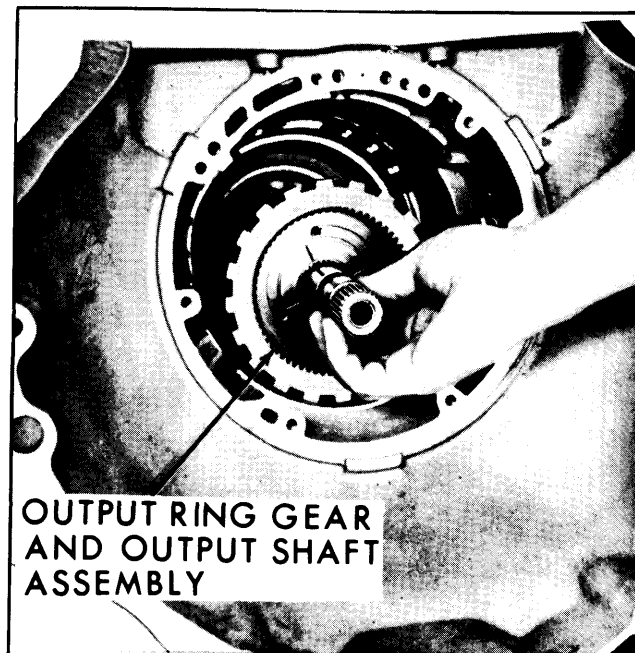

Fig. 7-48—Removing Output Ring Gear and Shaft Assembly
17. Remove output ring gear and shaft assembly from case. (Fig. 7-48)